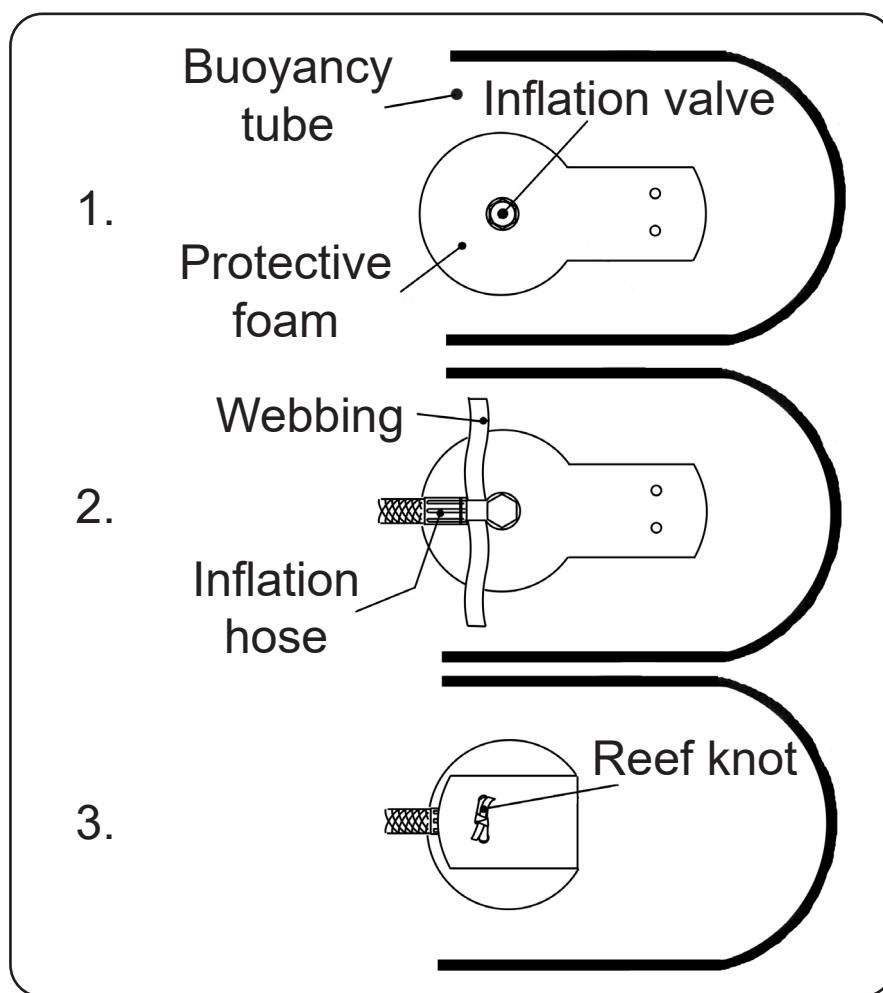

FIGURE 816
- 3.5 Fit the valve protective foam (FIGURE 816) 1 for each inflation valve, 2 in total. Secure them with a reef knot.